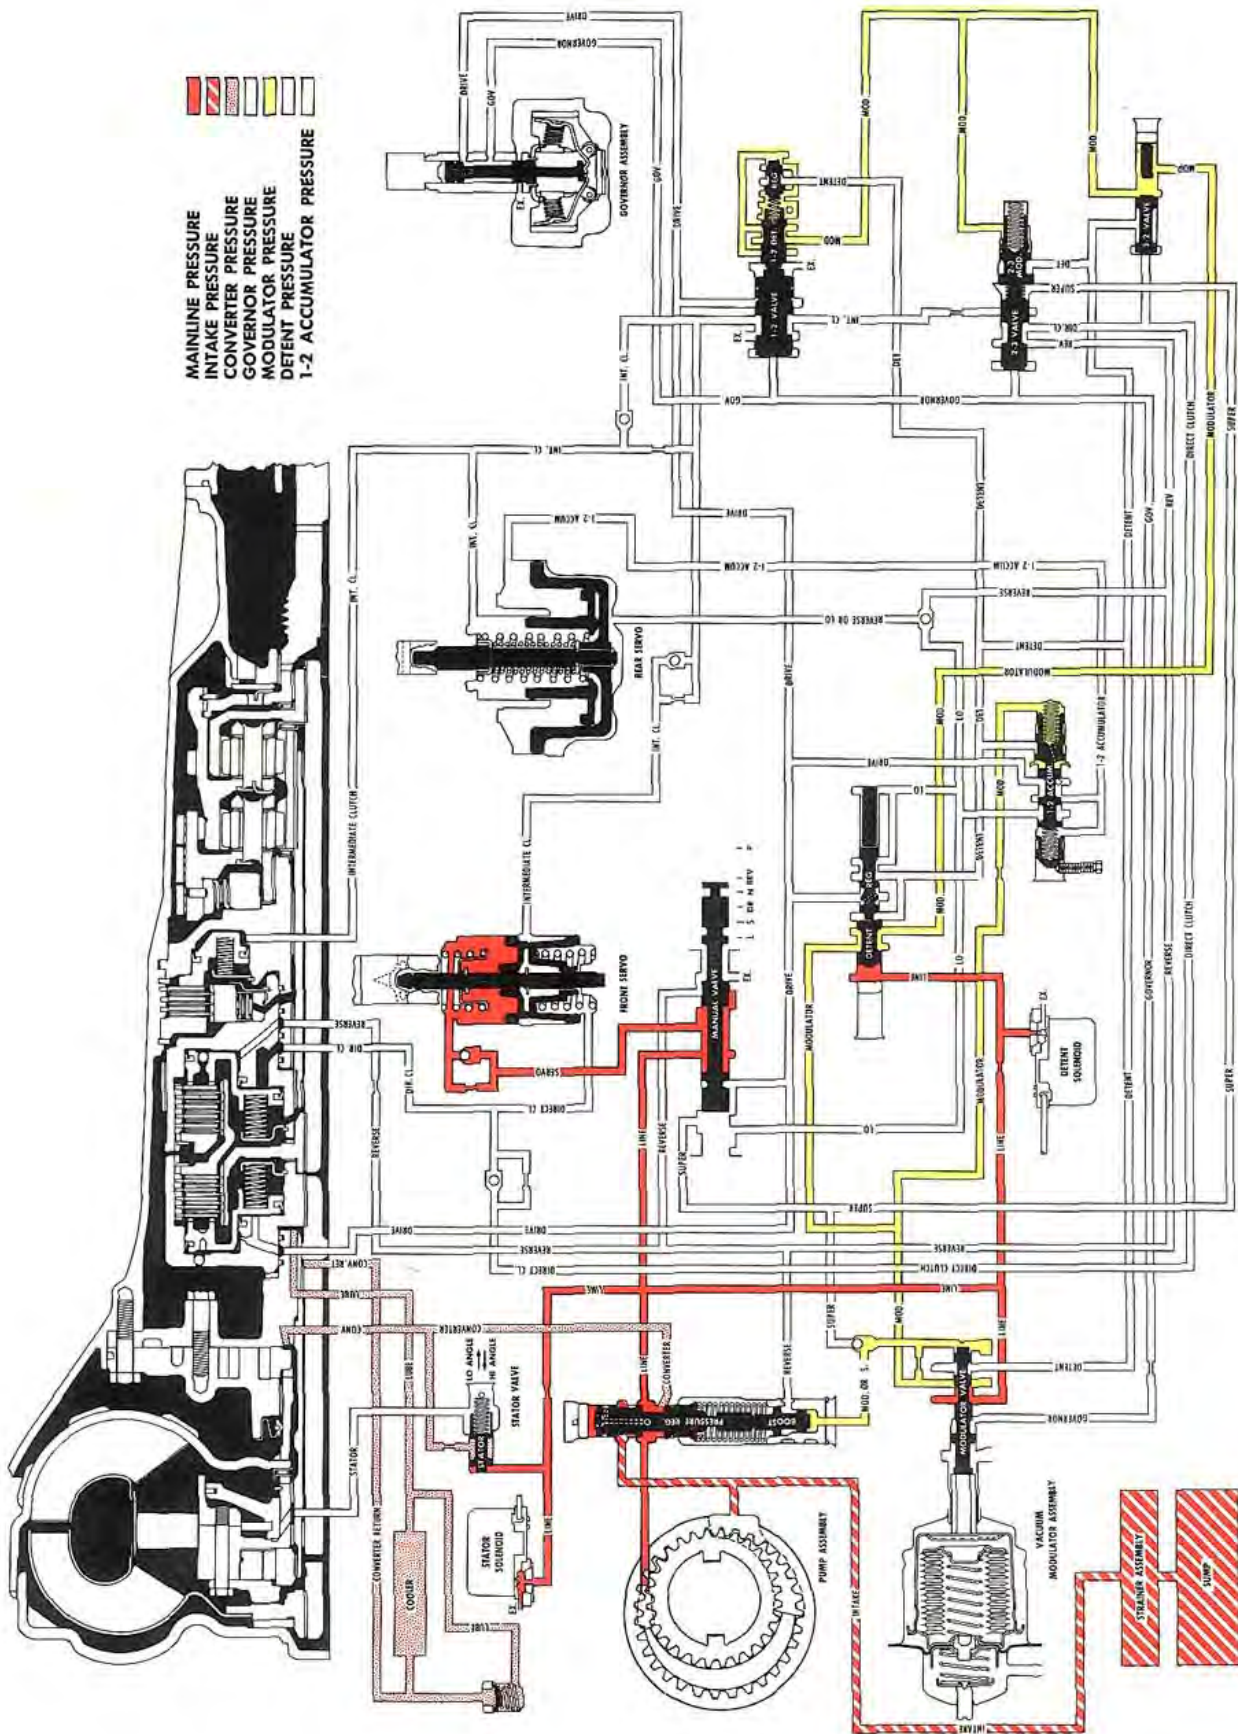

Fig. 6-15 Park or Neutral — Engine Running
**OIL FLOW CIRCUIT (Fig. 6-15)****PARK OR NEUTRAL—ENGINE RUNNING**